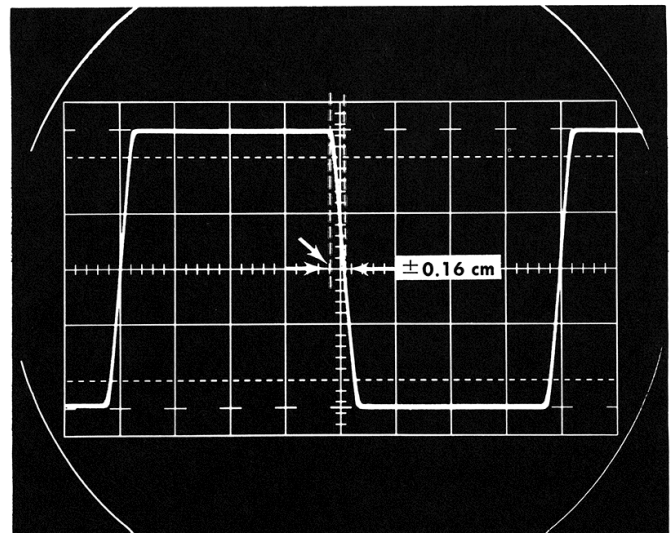

Fig. 5-3. Square wave symmetry.
f. Set both the Variable Time/cm and the Triggering controls for one complete cycle over the center 8 divisions of the graticule as shown in Fig. 5-3. Center the display vertically with the Vert. Position control and check symmetry at the 50% amplitude points.
g. Check—Symmetry is 48% to 52%. The transition is within 0.16 cm of the graticule center line, see Fig. 5-3.